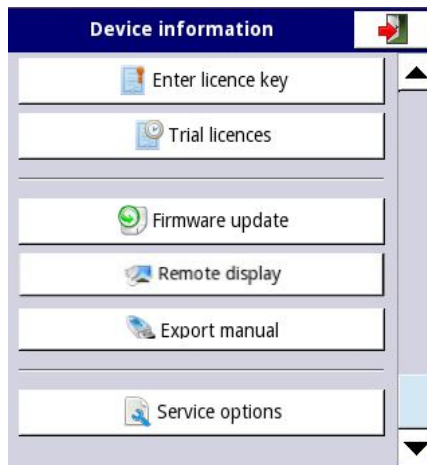

Fig. 7.32. Device information menu (cont.)
**Enter licence key** button (see **Fig. 7.32**) allows the user to enter a licence key purchased from the manufacturer (or supplier), enabling additional software options which enhance the functionality of the device. After entering and accepting the licence key the device automatically starts up with new software options (e.g. if the licence key for data logging is entered, the text under the **Licences** heading appears as: **Logging**: the period of validity – see **Fig. 7.32**).
**Trial licences** (see **Fig. 7.32**) allows the user to activate a 30-days licence for the specified functionality once if the functionality has never been activated before (30-days or permanent). After selecting and accepting the licence key, the device will automatically start up with new software functionality (i.e. if the user select the licence key for E-mail notification in the **Device information** in section **Licences** will appear the text „**E-mail notific.: available for 30 days**” - see **Fig. 7.32**).
**Firmware update** button (see **Fig. 7.32**) allows the user to update the device software. To perform the update:
- plug in the flash drive (some high capacity Pendrives are not supported, best choice is a pendrive with 2GB capacity) - start the update process by pressing the **Firmware update** button (see **Fig. 7.32**).
The **Service options** button (see **Fig. 7.32**) allows the user to: